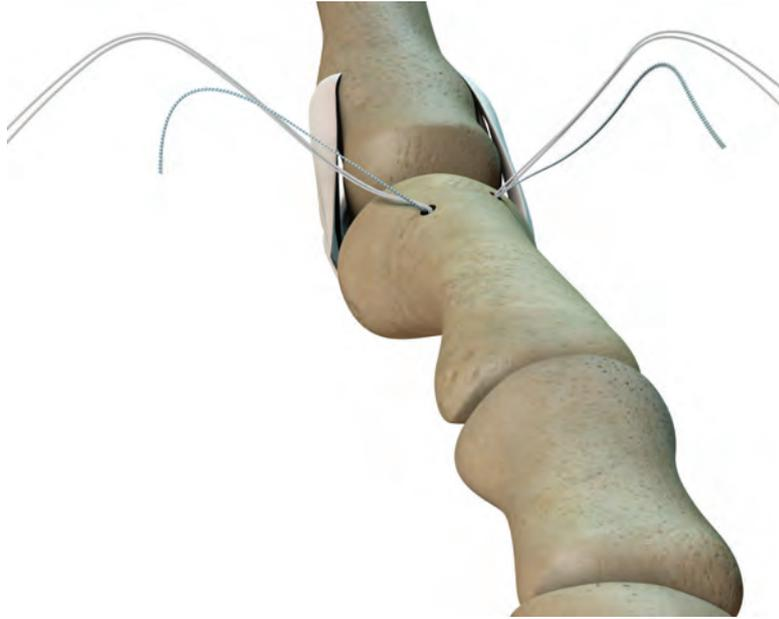

Figure 21: Sutures pulled through the bone tunnels
11. Pass the ULTRABRAID® #2-0 sutures from the medial plantar plate and collateral ligaments through the suture loop on the medial plantar side of the tunnel. Pull the sutures through the bone tunnel and retrieve the sutures on the lateral dorsal side of the tunnel (Figure 21).